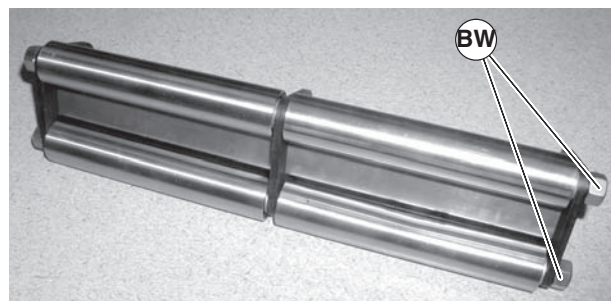

Figure 59
5. Remove hex nuts (Figure 59, item BW).